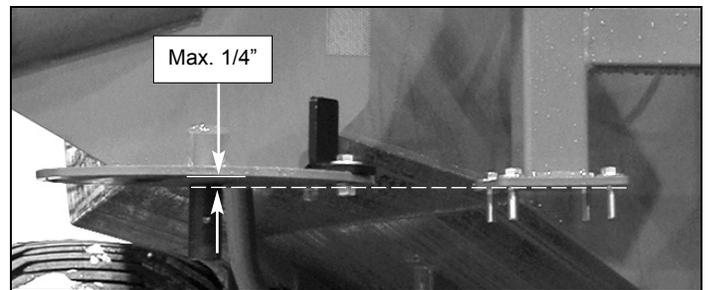
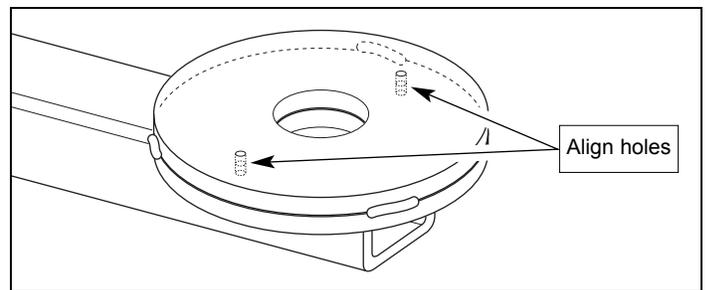

Fig. 6
Fig. 7
- 2.3 With a straight edge, align the side arm pivot plates with the fixing plate of the framework - *fig. 6*. If the gap between the two plates is more than 1/4", weld a spacer on the pivot plate of the side arm support - *fig. 7*.
ATTENTION: Make sure holes in the spacer plate are in line with the holes in the pivot plate on the side arm support - *fig. 7*.